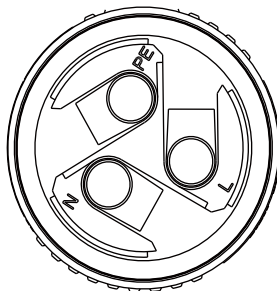

Figure-5.9 AC connector hole pattern
- Open the bolts of the socket using a hexagon screwdriver, then insert each cable core into its corresponding jack. The labeling for AC connection terminal is shown in figure- 5.9.